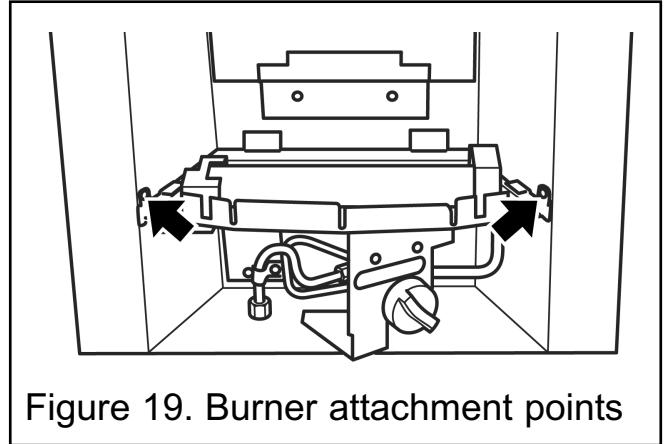

Figure 19. Burner attachment points
1. Refit the burner unit to the hotbox using the two screws removed previously. The burner securing points should be on the inside of the hotbox as shown in figure 19.